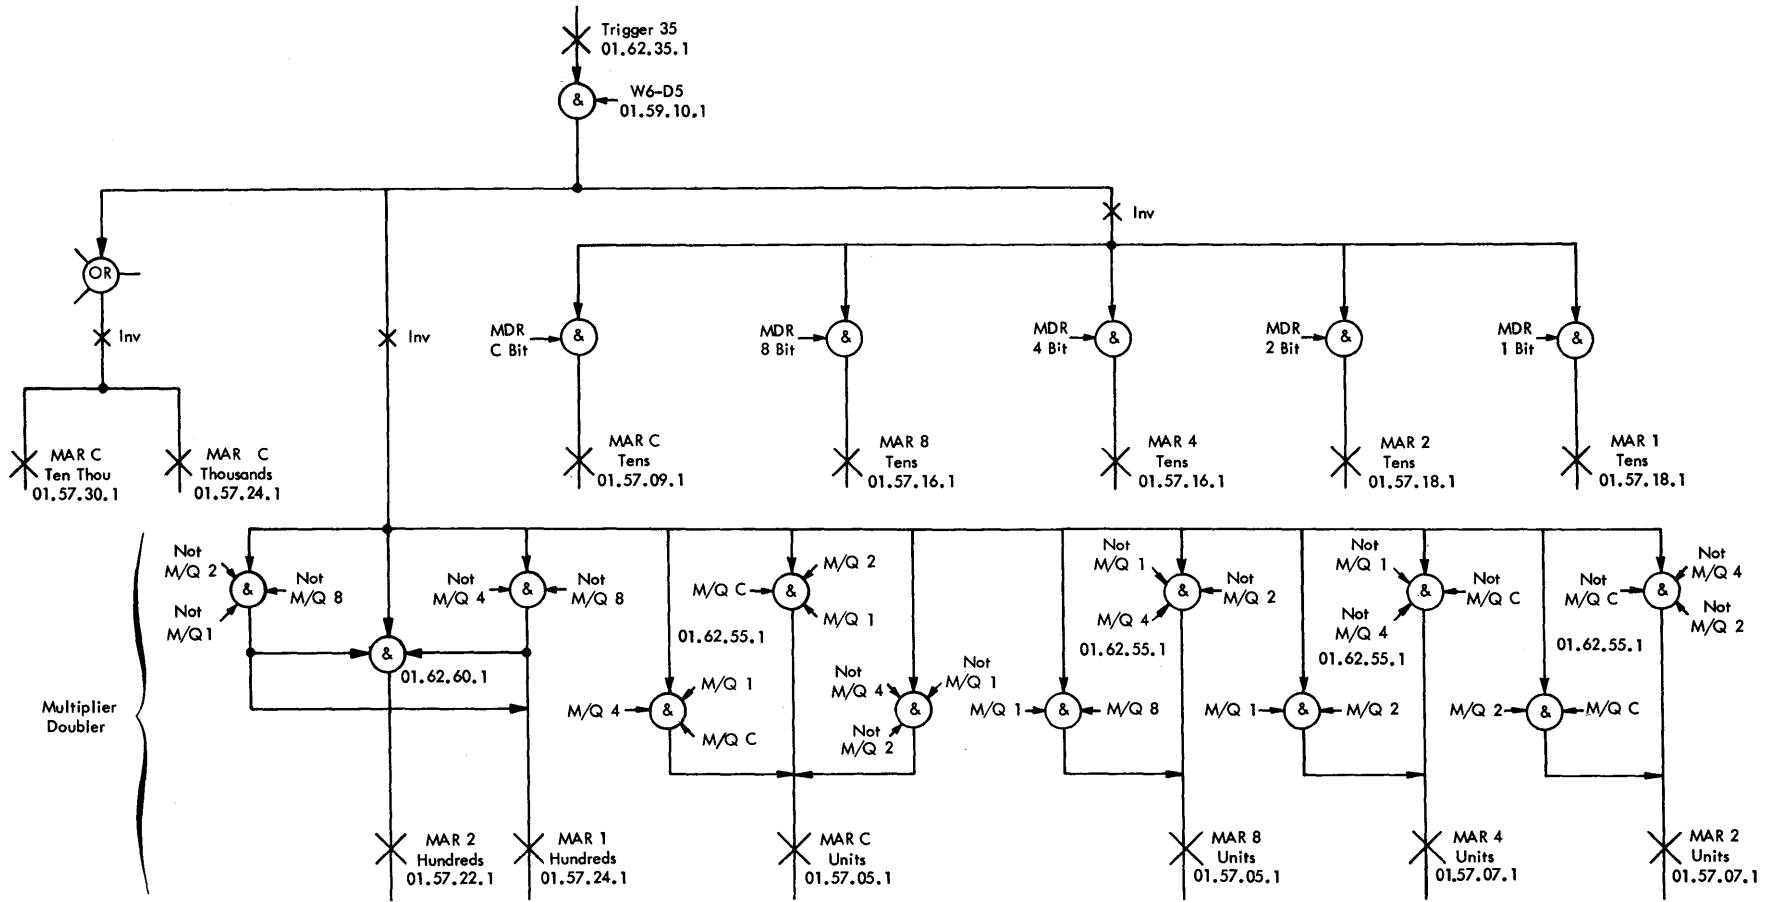

Figure 13-19. Set MAR Multiply Table Address
1. Develop and set multiply table address in MAR (Figure 13-19).